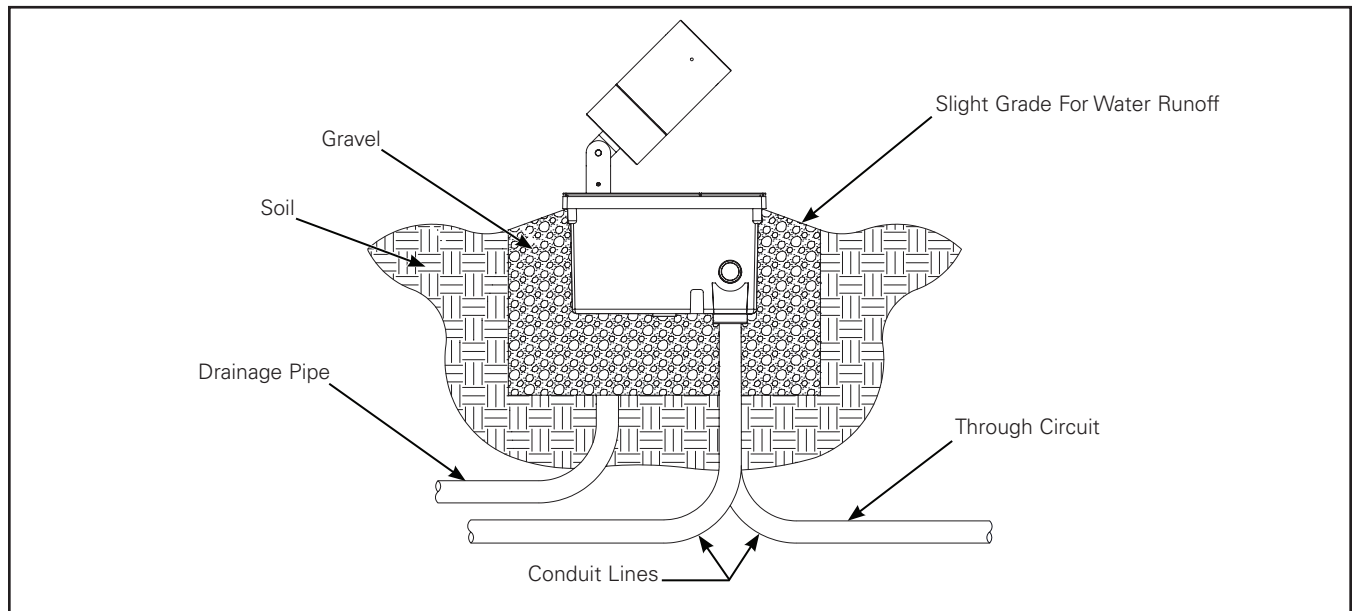

Figure 2.
5. Do not place in-ground container in low areas or other areas where water can accumulate and stand for long periods of time. (Figure 2.)